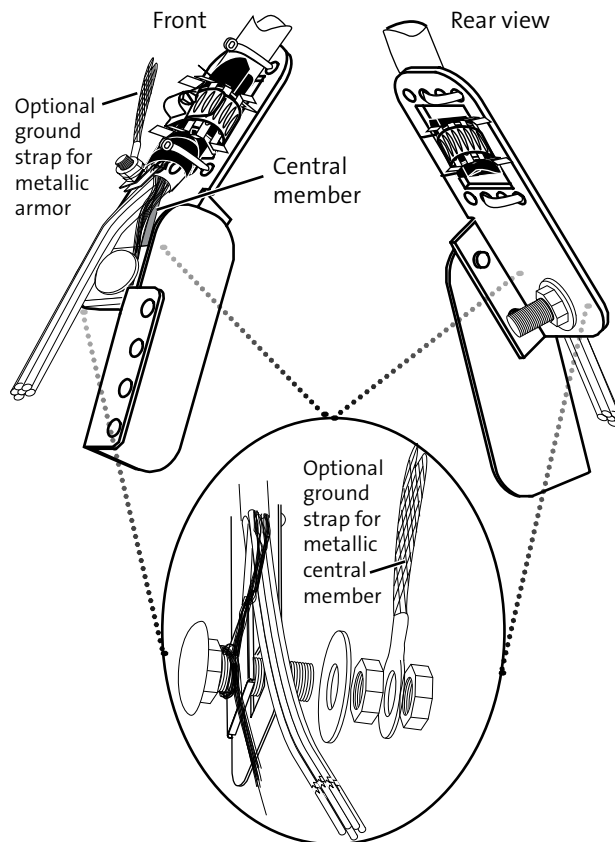

Figure 13
Step 6: Strain-relieve cables to strain relief brackets on the side of each shelf assembly as shown in Figure 13.
Step 7: Ground cable with metallic central member directly to the strain-relief bracket on the side of the drawer assembly (Figure 13).